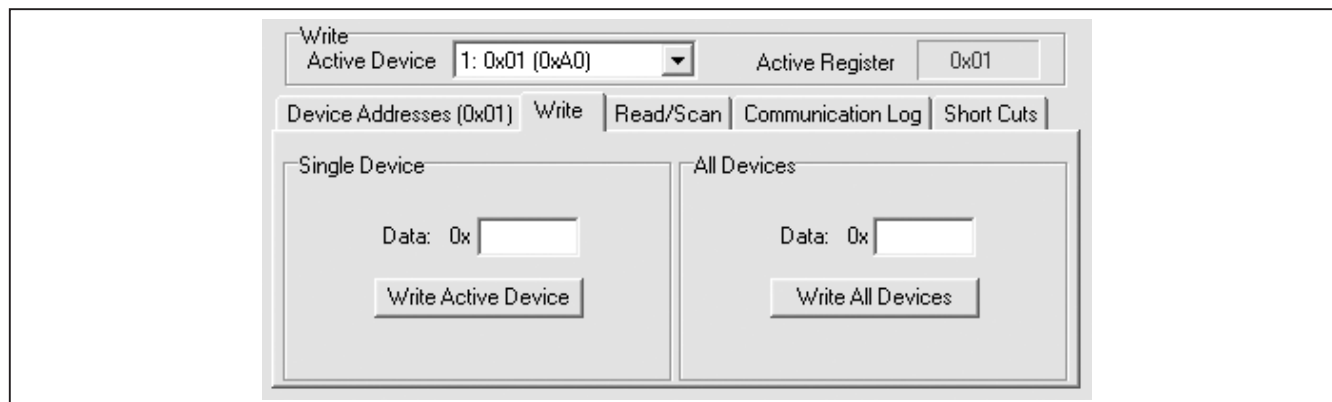

Figure 3. Write to Register Controls
- 3) Enter the hex value (####) into the **Data: 0x** edit box in the **Single Device** group box (Figure 3).